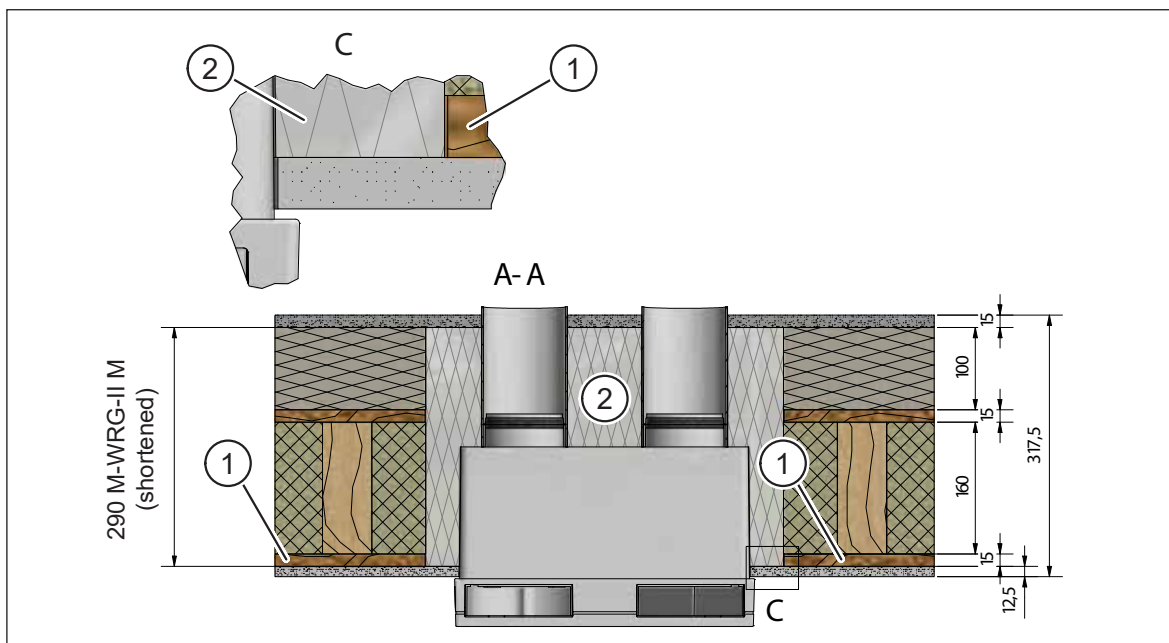

Fig. 25: Inner OSB board as the vapour barrier and airtight layer
The inner OSB board (item 1 in Fig. 25) is the vapour barrier and airtight layer. The OSB board must be connected to the wall box (item 2 in Fig. 25) using a suitable and approved adhesive tape, e.g. Rissan[®] from SIGA.